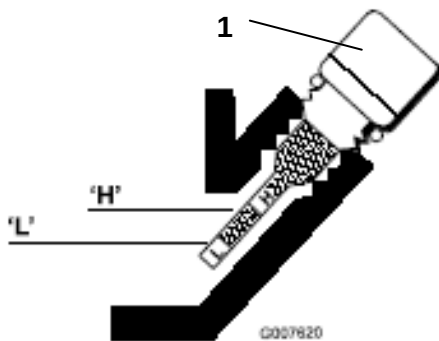

Figure 8
6. Pull the dipstick out and look at the end. The oil should be to the top of the upper limit range (Figure 8).